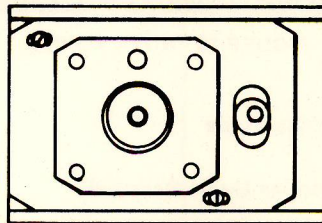

FIGURE 12 HEAD RADIAL ALIGNMENT
- f. Loosen the two mounting screws, which hold the motor plate to the support bracket (Refer to Figure 12).
- h. When the lobes are of an equal amplitude, tighten the motor plate mounting screws (Refer to Figure 12).